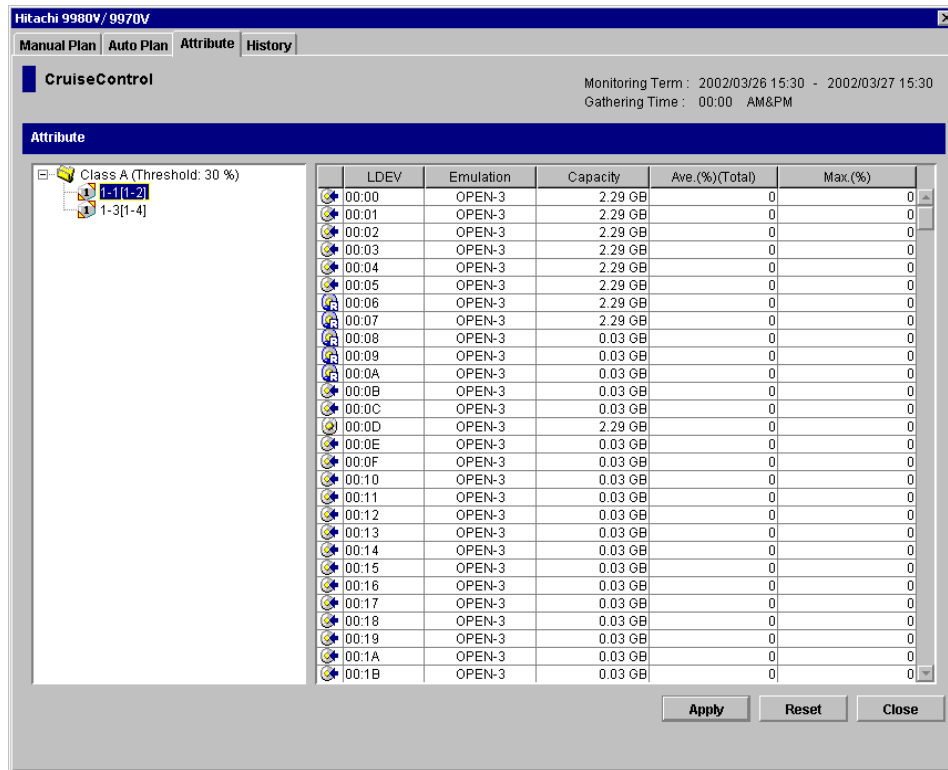

Figure 5.1 The Attribute Tab
2. From the Hitachi CruiseControl panel, click the **Attribute** tab (see Figure 5.1).